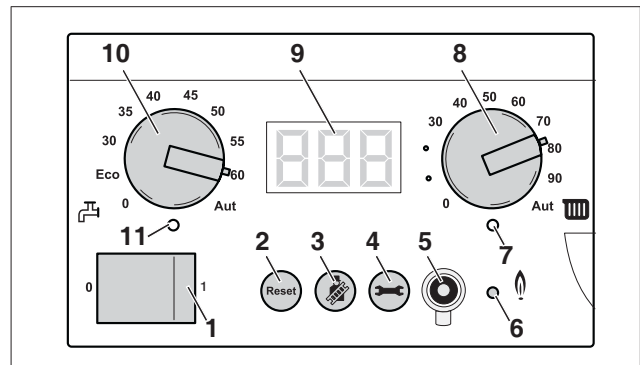

fig. 98 BC10 basic controller
- Switch off the heating system by pressing the mains switch of the Logamatic BC10 basic controller (fig. 98, **item 1**).
- Switch on the heating system by pressing the mains switch of the Logamatic BC10 basic controller (fig. 98, **item 1**).
- Press and hold the "Chimney sweep" button (fig. 98, **item 3**) (approx. two seconds), until the dot in the right-hand bottom corner of the display (fig. 98, **item 9**) appears. See also table 9, "Flue gas test", page 52.
- After the "Burner" LED (fig. 98, **item 6**) has lit up wait for one minute until the boiler is burning at full load.
- Press the "Chimney sweep" button (fig. 98, **item 3**) to clear the reading. See also table 9, "Flue gas test", page 52.